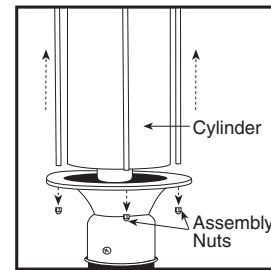

Figure 5
- d. For Cylinder fixtures, unscrew the assembly nuts from bottom, lift body of fixture slightly. Insert bulb. Reattach body using assembly nuts. (see figure 5)